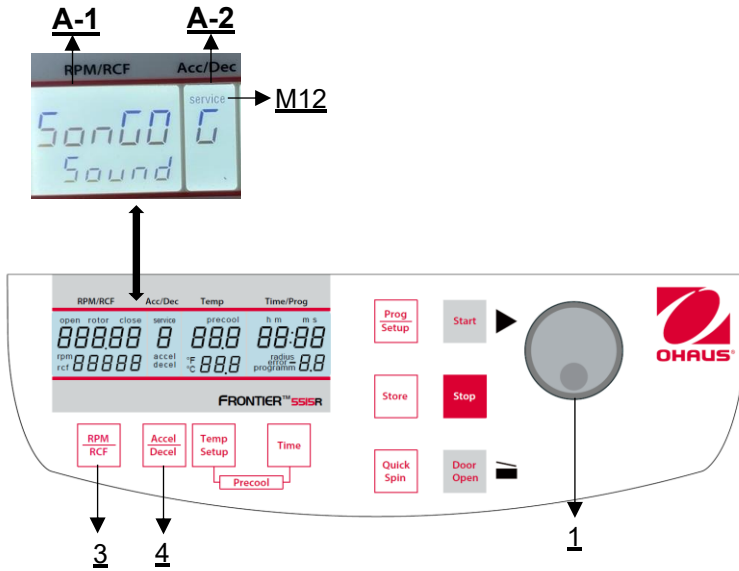

Figure 33
Proceed as described under point 4.1.1 to enter this program mode and then press the key "**Accel/Decel**" (4). In the display "**Acc/Dec**" (A-2) the word "**Service**" (M12) flashes. Now select the letter "**G**" with the adjusting knob (1). As a result, the words "SonGo/Sound" appear in the display "**RPM | RCF**" (A-1). After pressing the key "**RPM | RCF**" (3), you can select a song with the adjusting knob (1) (see **Figure 33**).